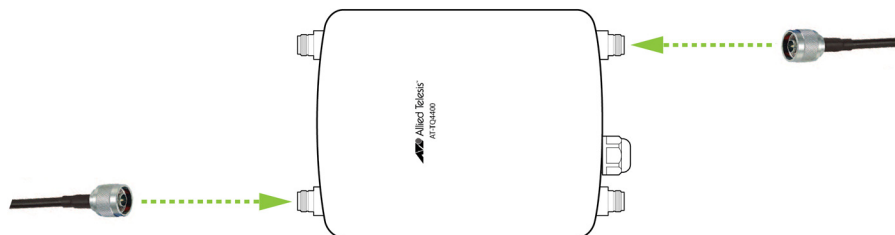
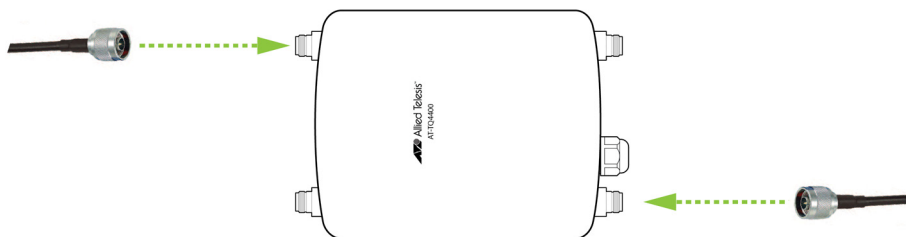

Figure 27. Installing Antennas for 2.4GHz to the Access Point
Figure 28. Installing Antennas for 5GHz to the Access Point
When you use the 2.4GHz band, refer to Figure 27; when you use the 5Ghz band, refer to Figure 28.
4. Connect cables to the connectors on the back panel of the antenna. Refer to Figure 28 on page 64.